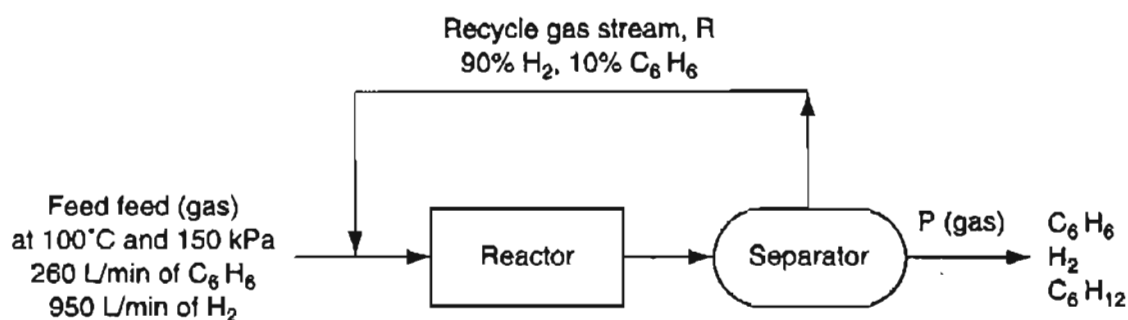

Figure P13.45
- 13.45** Benzene (C_6H_6) is converted to cyclohexane (C_6H_{12}) by direct reaction with H_2 . The fresh feed to the process is 260 L/min of C_6H_6 plus 950 L/min of H_2 at 100°C and 150 kPa . The single pass conversion of H_2 in the reactor is 48% while the overall conversion of H_2 in the process is 75% . The recycle stream contains 90% H_2 and the remainder benzene (no cyclohexane). See Figure P13.45.